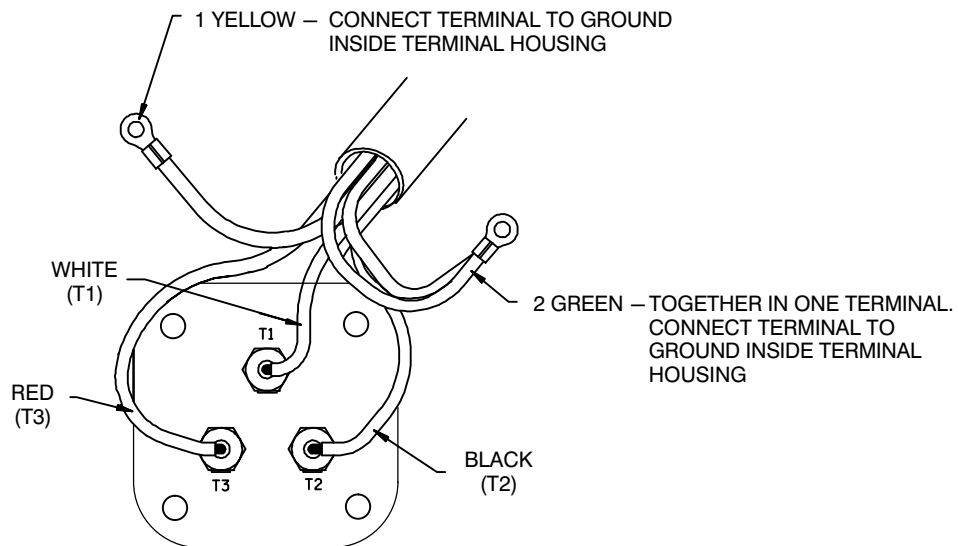

Figure 5. Terminal Housing Wiring Connections
Slide a length of heat-shrink tubing (13) up over each of the power cable leads. Install the leads on the terminal posts as shown in Figure 5 and secure them using the hex nuts (14). Slide the tubing down each lead until the terminals are covered and the tubing contacts the terminal plate. The tubing **must** extend up the leads far enough to ensure a good seal.